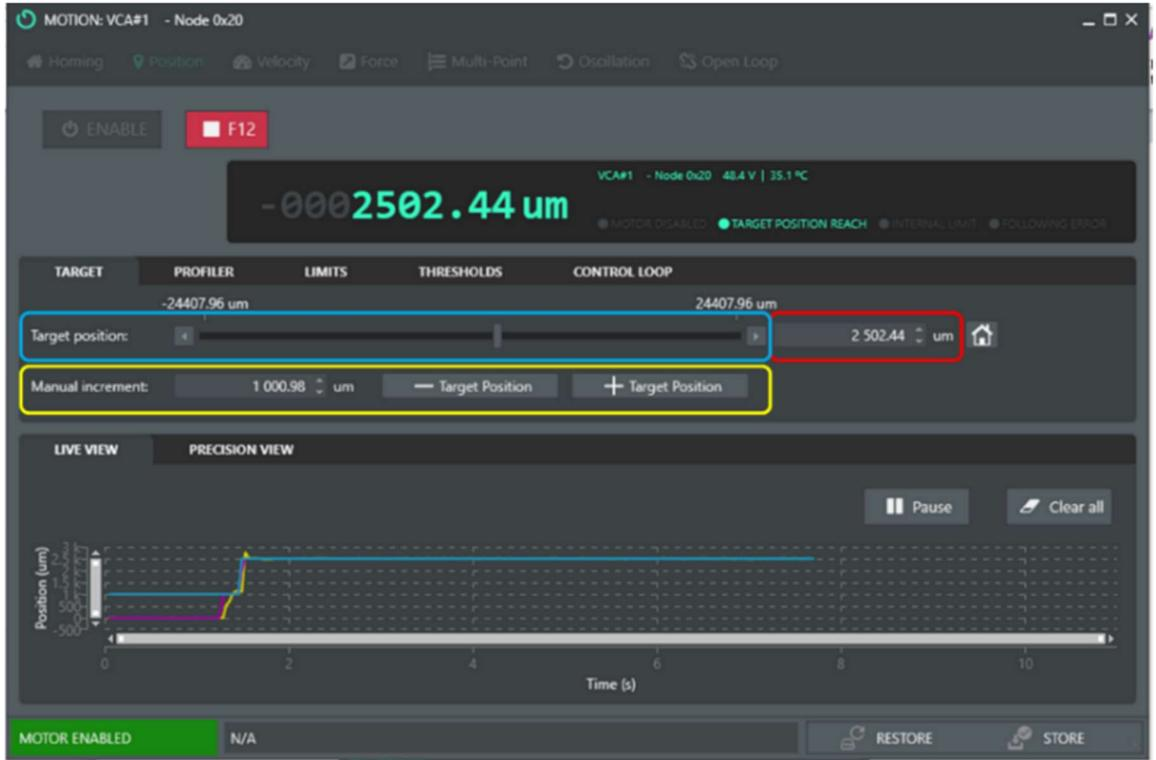

Fig. 35: Position tab with the Target sub-tab selected.
- a. Type in the target position (red box in **Fig. 35**) and press Enter. The VCA will immediately move to this new position when you click "Enable".
- b. Adjust the manual increment (yellow box in **Fig. 35**) and press the "- Target Position" to move the VCA down, or the "+ Target Position" button to move the VCA up. Each time the user clicks the "- Target Position" or the "+ Target Position" tab, the VCA moves by the incremental distance specified. This method allows the user to reach the target position slowly and gradually in small increments without worrying about overshooting.
- c. Move the slider (blue box in **Fig. 35**) to the desired position, and the VCA will move to that position. This option is **not recommended** as position is not easy to precisely control.
When you "Enable" the VCA, the VCA will move to the specified position immediately. In addition, a plot of the "Actual Position", "Demand Position", and "Target Position" will be initiated in the lower half of the screen (**Fig. 35**).